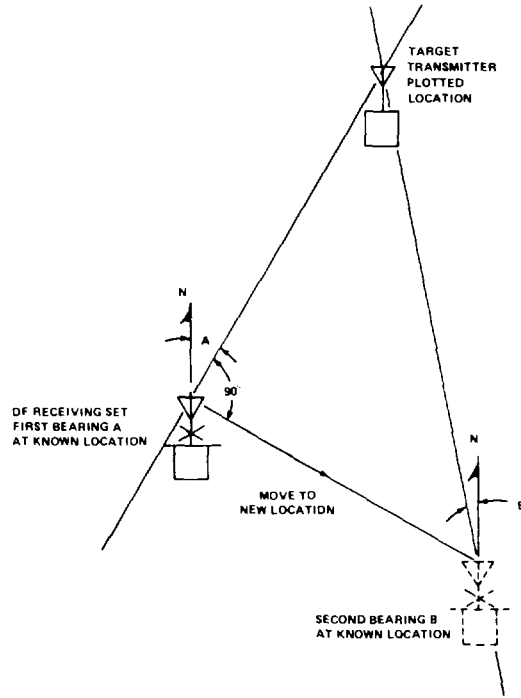

Figure 2-13. Triangulation Technique for Locating a Target Transmitter
e. Plot location of target transmitter on an area map or chart by triangulation method which follows. Plot location of each receiving site on map. Note direction of magnetic north from each site. Draw a straight line through each site at bearing angle taken at that site. Lines will cross at target transmitter location. Figure 2-13 shows a typical triangulation plot.